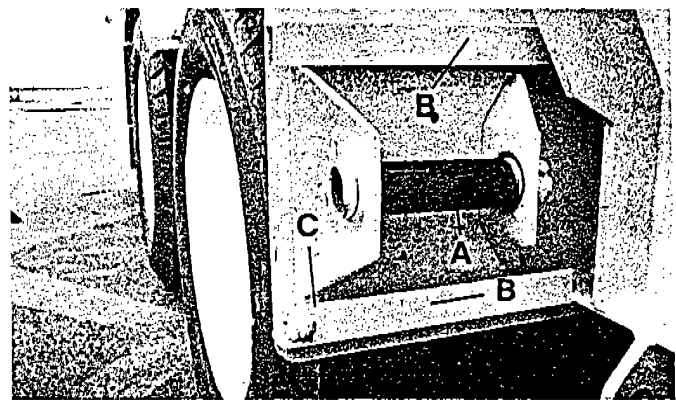

Fig. 96
- d. Remove the sand shoe from the landing gear. Store the sand shoe pipe (a) between the sand shoe ears. Store the sand shoe in the brackets on the fender, in front of the rear tires (b). Position the bottom plate flat against the fender. Install a set screw (c) in the hole at the outside end of the lower bracket. Tighten the set screw until it meets the fender. (Fig. 96)